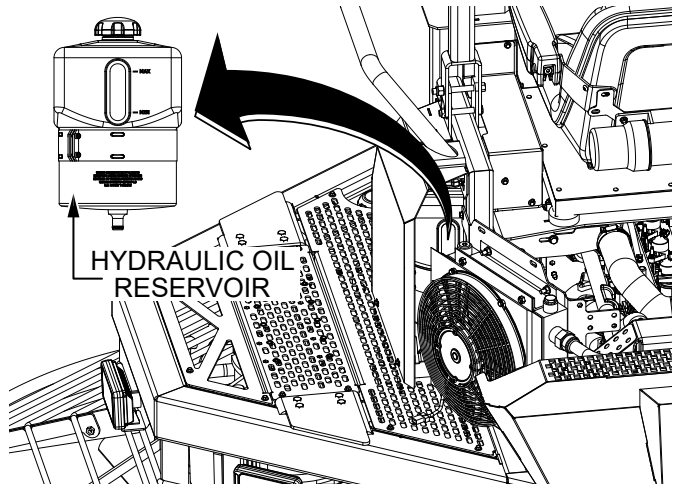

Figure 25. Hydraulic Oil Level Inspection
5. An alternative method for checking the level of hydraulic oil is to visually inspect the level through the window at the rear of the hydraulic oil reservoir (Figure 25). Hydraulic oil should be visible between the **MIN** and **MAX** lines next to the window.